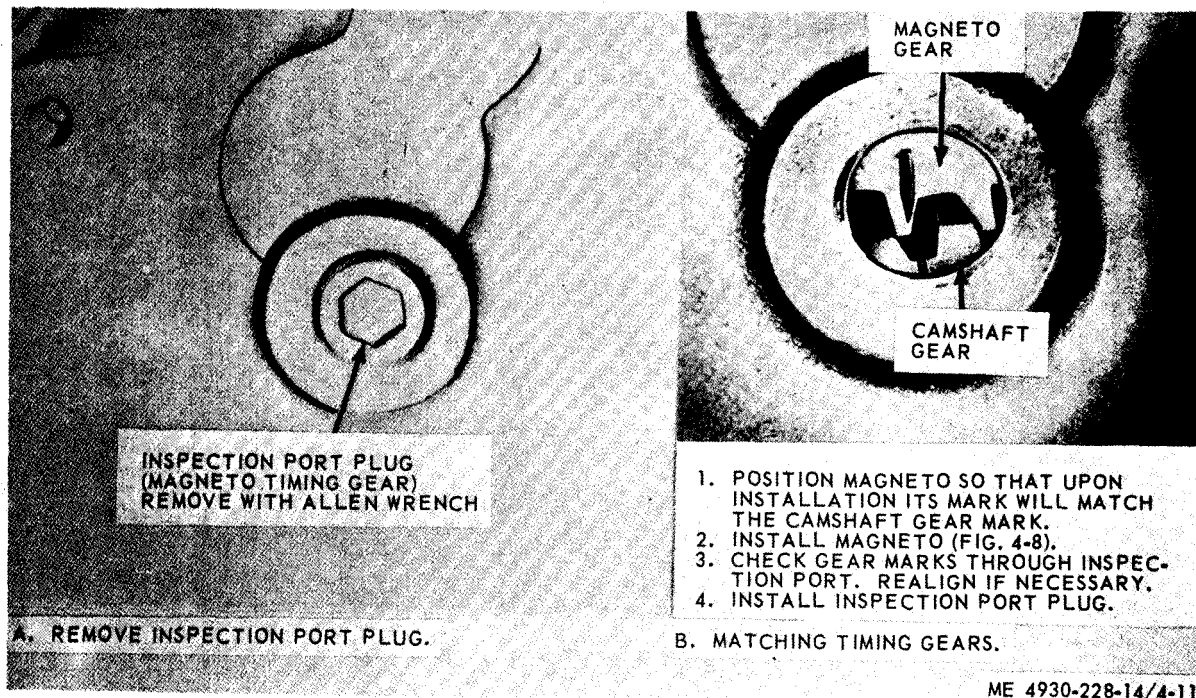

Figure 4-11. Timing the magneto.
(2) Install the air shroud (para 4-18).
f. Timing the Magneto. Refer to figure 4-11 and time the magneto.